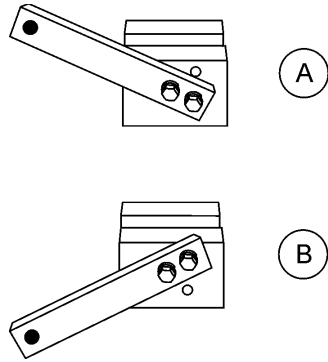

Figure 46. Trowel Arm Adjustment Setup
2. Ensure the fixture arm is in the proper setting (up or down) for your trowel arm rotation as shown in Figure 46.
Arms with **CLOCKWISE** blade rotation use the fixture arm in the **UP** position (Figure 46, A). Arms with **COUNTERCLOCKWISE** blade rotation use the fixture arm in the **DOWN** position (Figure 46, B).